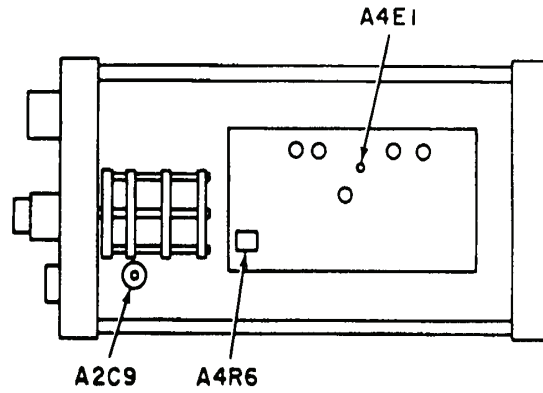
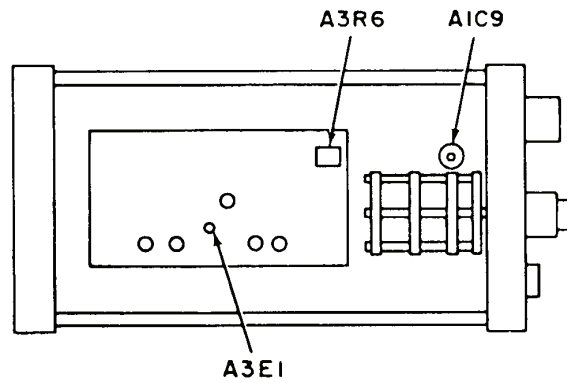

Figure 4. Interval timer - right view.
Figure 5. Interval timer - left view.
- (1) Connect multimeter to **STOP** input.
- (2) Adjust A4R6 (fig. 4) on stop channel board for zero (± 10 mV) indication on multimeter.
(3) Disconnect multimeter from **STOP** input and connect **START** input.
(4) Adjust A3R6 (fig. 5) on start channel board for zero (± 10 mV) indication on multimeter.
(2) Adjust oscilloscope calibrator frequency to 10 kHz and output to 300 mV p-p as indicated on oscilloscope.
(3) Disconnect cable from **STOP** connector and connect it to test point A4E1 (fig. 4). Note waveforms displayed on oscilloscope.
(4) Set **STOP MULTIPLIER** switch to **.2**. If waveform observed on oscilloscope is not as noted in (3) above, except reduced in amplitude by one-half, perform **b** (1) below.
(5) Disconnect cable from test point A4E1, and connect it to center conductor of **START** connector and chassis ground.
(6) Connect oscilloscope calibrator to **START** connector and repeat (2) above.
(7) Disconnect cable from **START** connector, and connect it between test point A3E1 (fig. 5) on start channel board and chassis ground. Note waveform displayed on oscilloscope.
(8) Set **START MULTIPLIER** switch to **.2**. If waveform observed on oscilloscope is not as noted in (7) above, except reduced in amplitude by one-half, perform **b** (2) below.
(1) Adjust A2C9 (fig. 4) to meet requirements of **a** (4) above (R).
(2) Adjust A1C9 (fig. 5) to meet requirements of **a** (8) above (R).